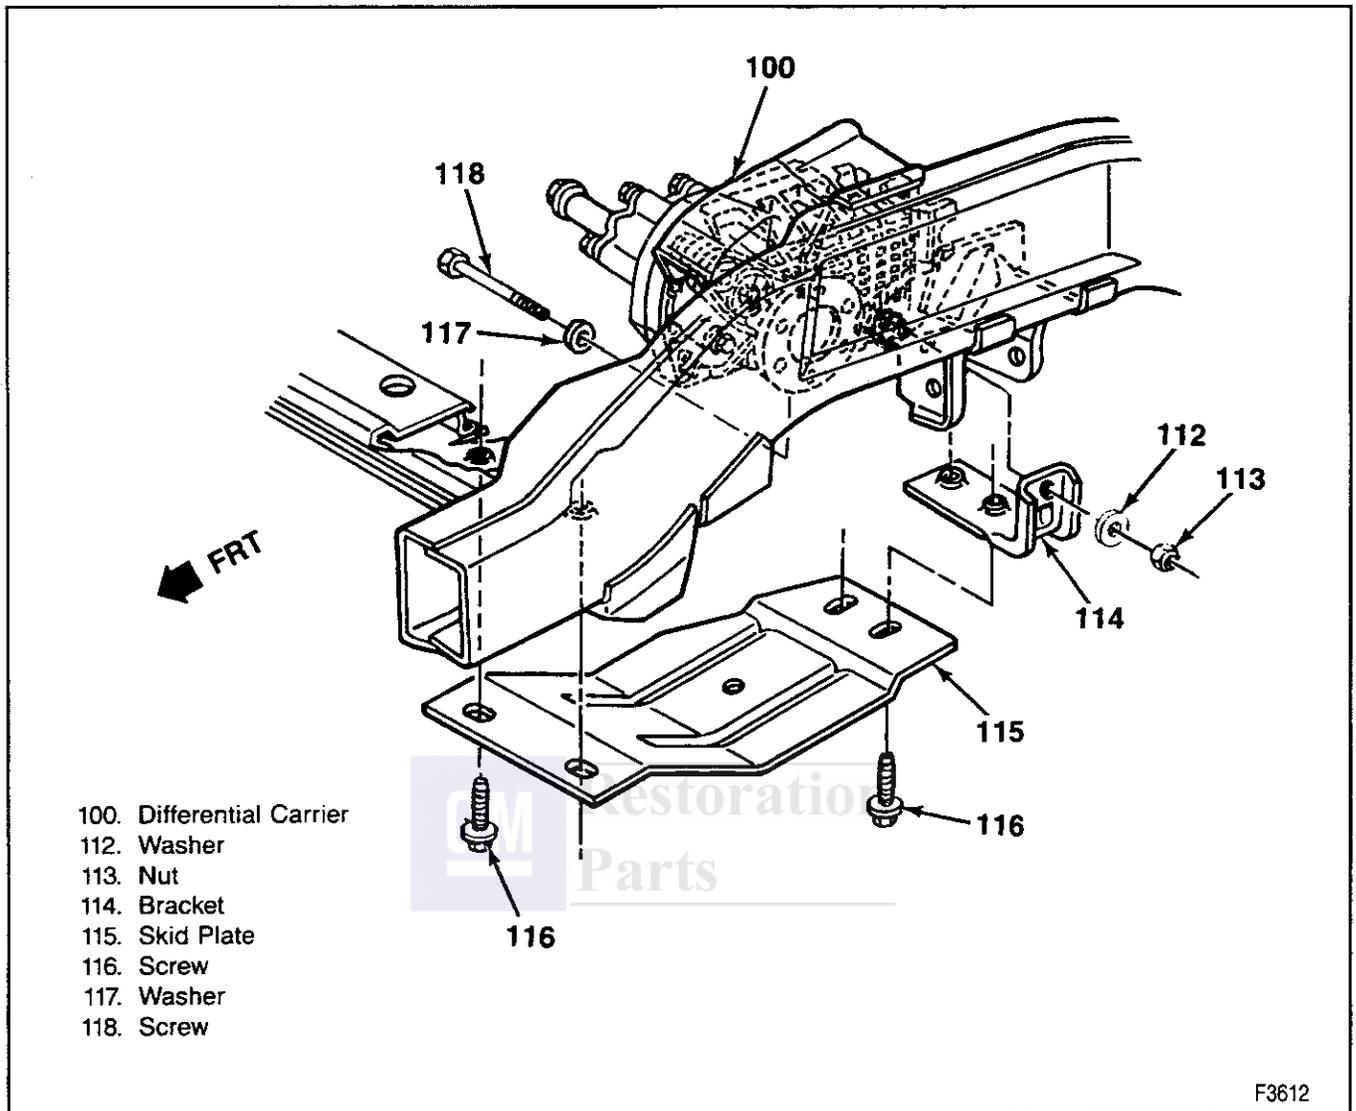

Figure 2—Skid Plate
Remove or Disconnect (Figure 2)
Install or Connect (Figure 2)
1. Skid plate (115), if necessary (figure 2).
2. Fill plug (26).
3. Drain plug (27) and the washer (28).
- Plug (26) to 33 N.m (24 lbs. ft.).
3. Skid plate (115), if necessary (figure 2).